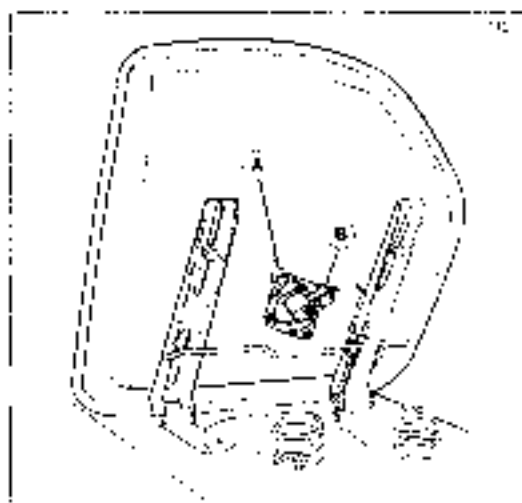

Figure 5. Seat Switch
Check the seat switch (A) (Figure 5) every 100 hours and spring with the following four tests: